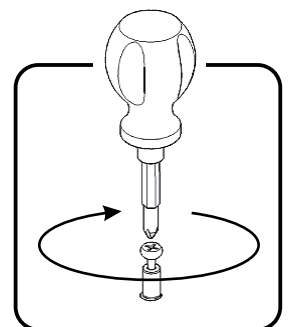

Figure 1
Insert Cam Lock Screws into pre-drilled holes in Top (A), Side Panels (B), (C), Middle Panel (J) and Base (K), then tighten. (See Figure 1)